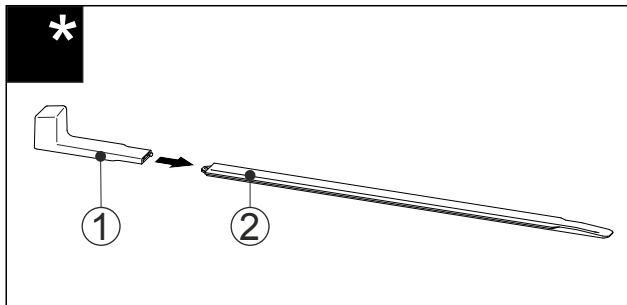

Fig. 59
- Attach the installation handle Fig. 59 (1) to the levelling rail Fig. 59 (2).